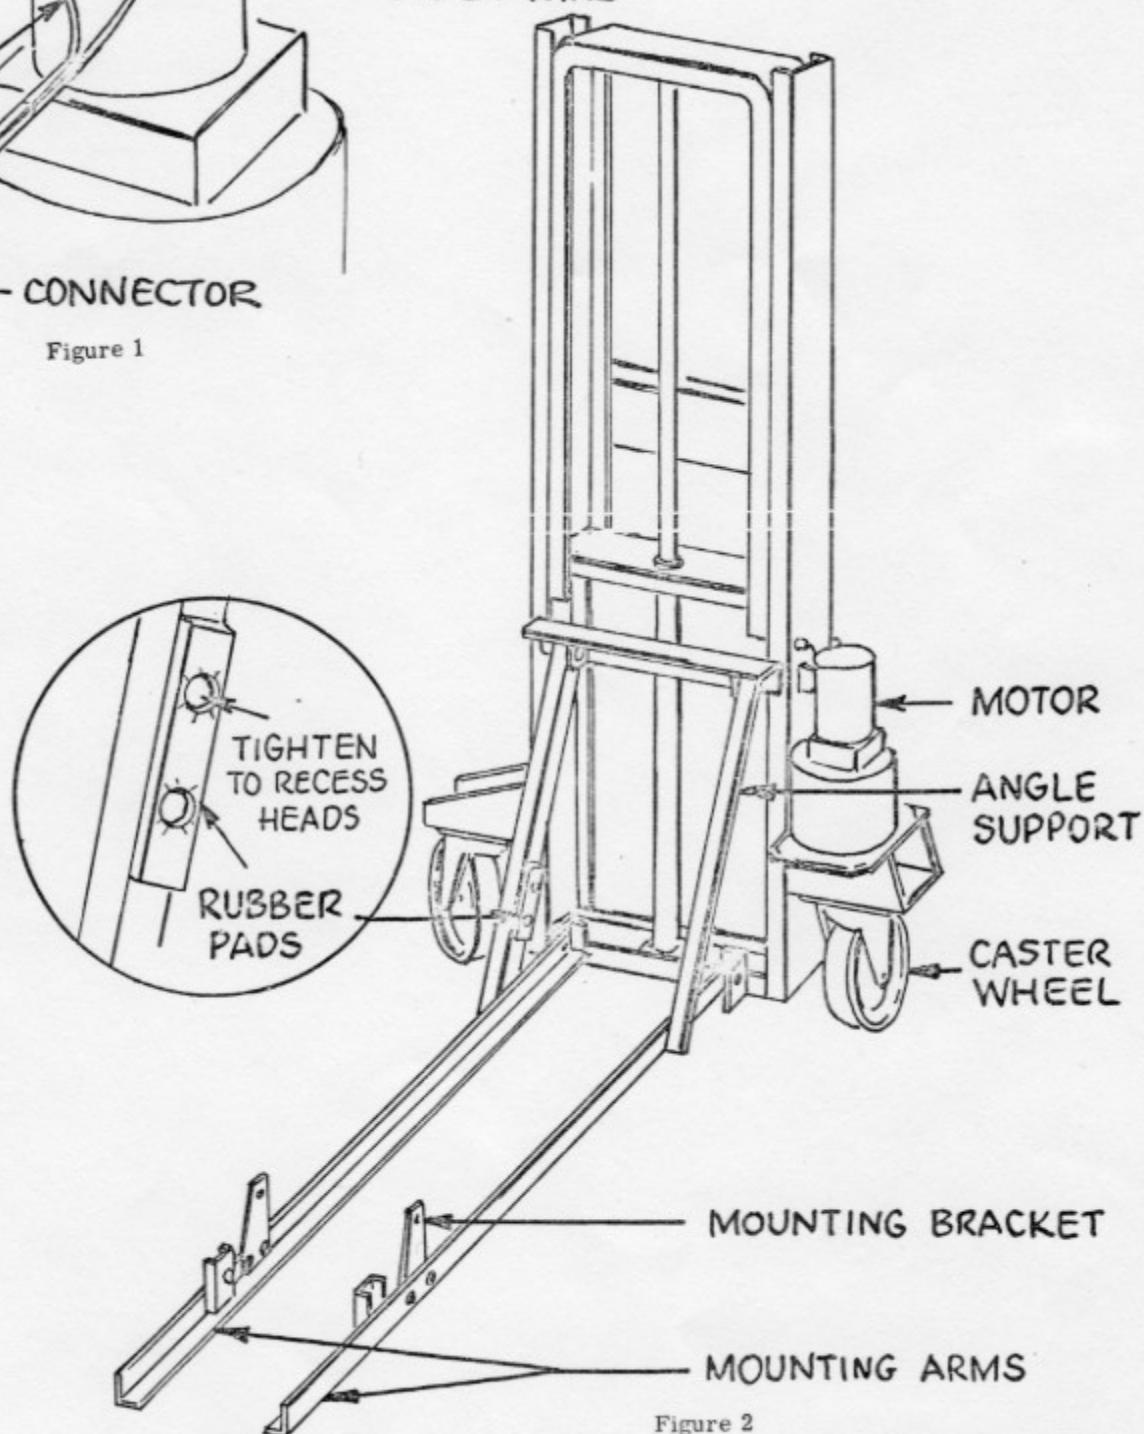

Figure 2
5. Mount the angle support with the control lever brace to the motor end of the center cross-bar on the lift frame, using a 1/2 x 1 inch bolt, lockwasher and nut. Mount the other angle support similarly at the opposite end of the cross-bar. See Figure 2.
6. Mount rubber pads on the inside of each angle support using carriage bolts (round heads) and nuts. Install the bolts with the heads towards the center of the lift. Tighten the bolts to slightly recess their heads below the rubber pad surface. See Figure 2 insert.
7. Install the mounting arms on the lower cross-bar using 1/2 x 1 inch bolts, lockwashers and nuts. Notice that there is a left and right arm. See Figure 2.